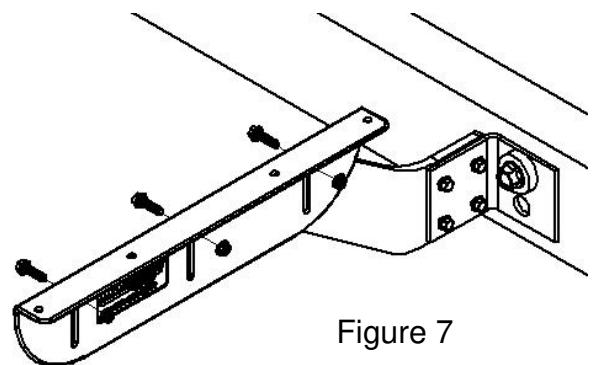

Figure 7
- a. In these cases use the plastic angle (PB5071) to connect the fender to the center bracket assembly (Figure 7).